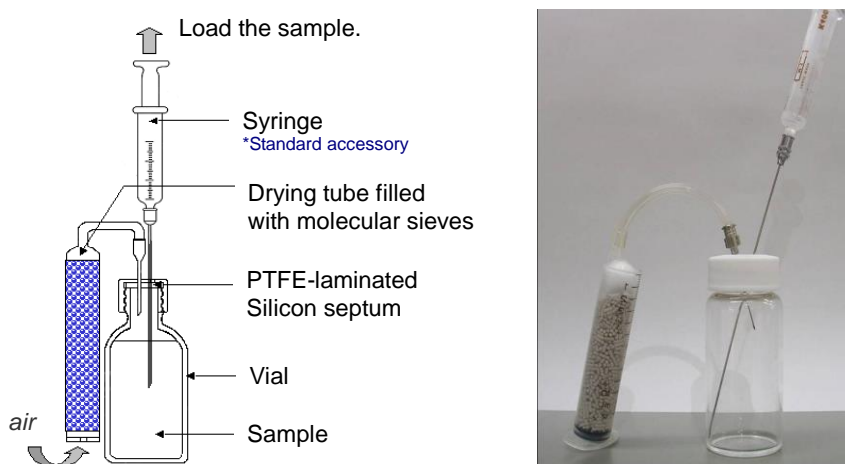

Fig.5.1. Draw the sample from syringe vial.
- (1) Use dried syringe and syringe vial in Fig.5.1 for preventive of contamination by atmospheric water.
- (2) To measure 100 µg or less water detection, make sure stability of blanking. Low and stable background value is important factor for trace level of water measurement.
- (3) Select anode solution according to the solubility of the sample. For example, Hydranal coulomat AG-H and Hydranal coulomat Oil are suitable for long chain hydrocarbons and oil samples.
- (4) The optimized electrolysis control for fritless cell of AQ series released after 2009 improves the measurement accuracy of fritless cell. It can be used with the evaporator as well. Suitable reagent for fritless cell is required. For example, Hydranal coulomat AG and AG-Oven are compatible with fritless cell.